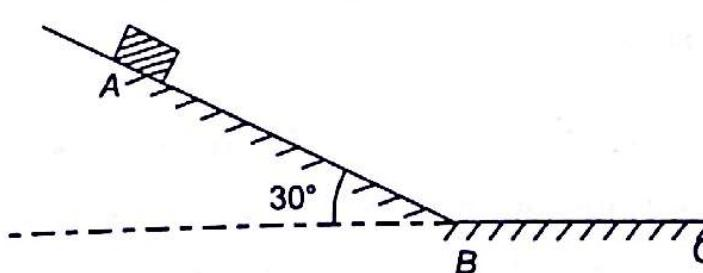

Fig. 14.23
14.5 A small block starts from rest at point A as shown in Fig. 14.23 and slides down the inclined plane AB, 20 m long. What distance the block will travel along the horizontal track BC before coming to rest. The coefficient of friction between track and block is 0.30. It is assumed that the block will start moving along BC with same velocity which it acquired while sliding down. Coefficient of friction between plane AB and track is 0.3.